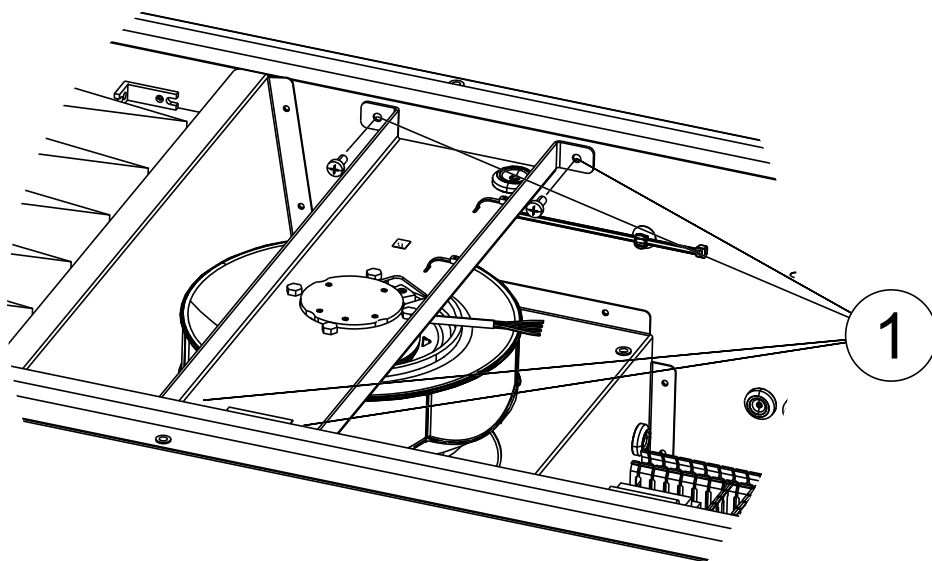

Fig. 3
The fan can easily be taken out, by removing 4 screws (pos 1) shown in figure 3 and disconnecting the fast couplings to the electric wires.